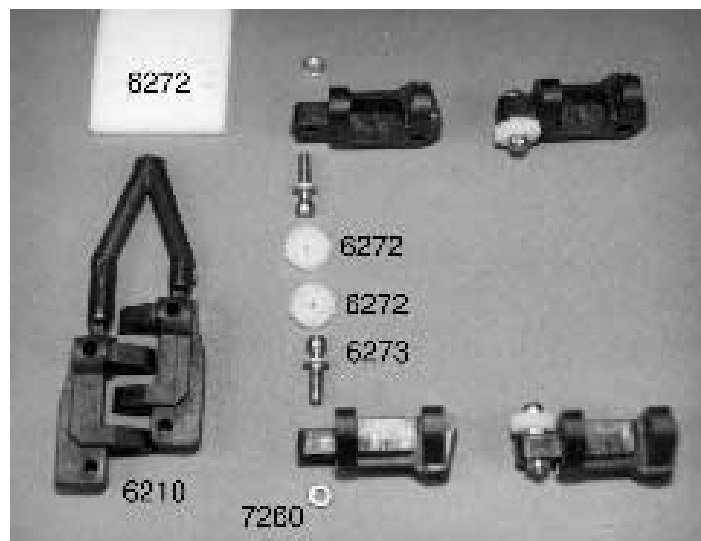

Fig. 2
Fig. 2 (1) Find and remove bag #6-14. Now remove two #6273 long ball ends and two #7260 4-40 small thin plain nuts. (2) In the same bag you will find a thin flat piece of white foam with several donut shaped parts cut into the foam. These are our new #6272 foam ball end dust covers. We will be installing one of these over each ball end after it has been installed. (3) Now open bag #7-1 and remove the #6210 30° caster front carrier blocks. The carrier blocks are connected by a small molded runner which you will need to remove with your X-acto© knife. Be sure to remove all of the runner. (4) Screw one of the ball ends into each carrier block as shown (5) and then thread on the plain nuts. **NOTE: A 3/16\"**